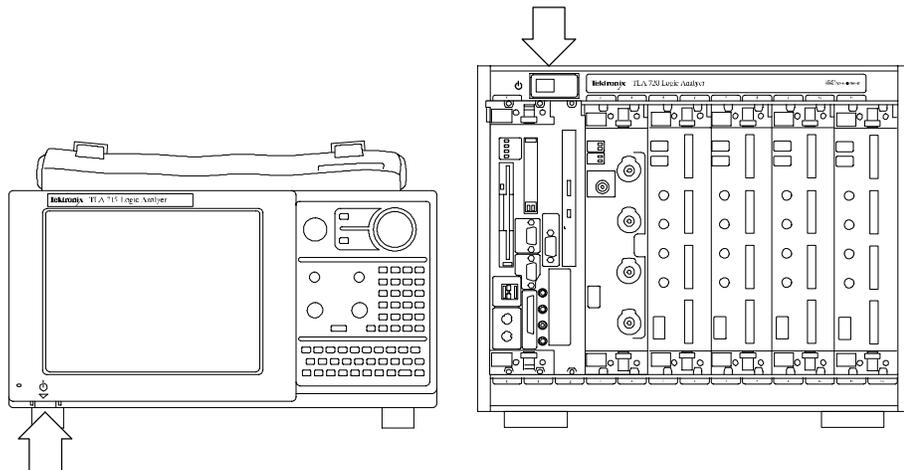

Figure 15: TLA700 On/Standby switch locations
4. Press the On/Standby switch to turn on the mainframe (see Figure 15 for the switch location).